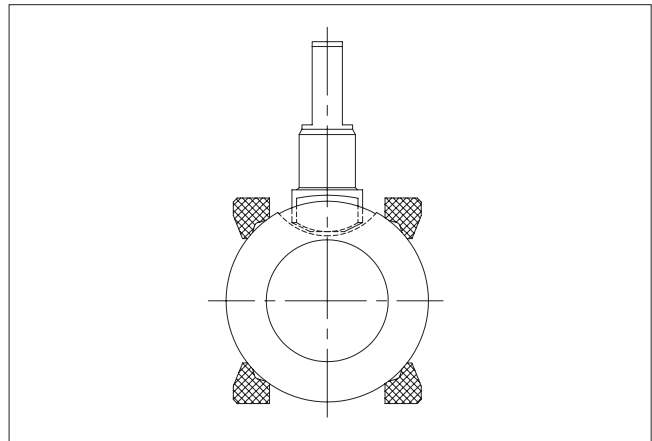

Figure 2.
3. Clamp the valve body (1) securely in a vise in the vertical position with the insert end up, taking care not to damage any valve sealing surfaces.
4. Place one valve seat (5) sidewise into the body cavity (1) to just below the stem hole and tilt it into place so that the proper face will come in contact with the ball (3) (see **Figure 2**).
7. Holding the stem in place from the inside, install the stem seal (8), the compression ring (21), and stem washer (14) over the end of the stem protruding out of the body stem bore.
8. Place the stem nut (16) on the stem (4).
9. Tighten the stem nut (16) until the stem comes snugly into place, then torque stem nut to 160-170 in.lbs (18.1-19.2 N.m). Rotate the stem gently to assure proper seating.
10. Make sure there is no dirt and grit in the insert (2) threads. Apply a lubricant compatible with the flowing media to the threads and screw the insert (2) into the body (1) by hand until it is fully seated. Remove insert.
11. Align the stem (5) to the ball slot. Insert the ball (3) rotating it onto the stem (4) in the closed position. If necessary turn the stem blade to align with the ball slot.
12. Insert the second seat (7) with the seat sealing surface towards the ball. (See **Figure 2**).
13. Insert the body seal (6) into the body (1).
14. Make sure there is no dirt and grit in the insert (2) threads. Screw the insert (2) into the body (1) and tighten the insert. Insert torque shall be 170 - 200 ft. lbs.